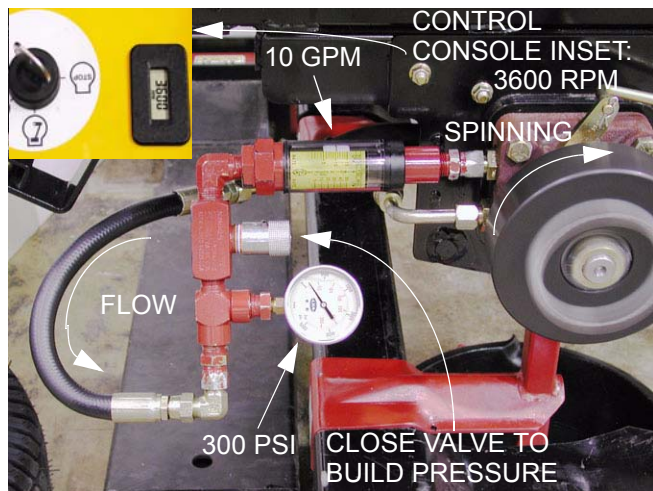

Figure 4.23
- 4.23. When the fluid is between 160-210 deg. f. (71-90 deg. c.) apply full forward drive pressure to the lap bar with the engine running at full speed (3600 RPM) while an assistant closes the valve to the point where pressure reaches 300 PSI (21 Bar.). See Figure 4.23.